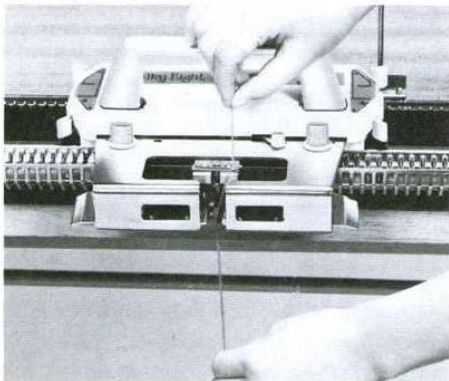

Fig.26
- (f) then finally down to the carriage feeder. (Fig.26)
- (g) Slide the wool under the feeder spring plate, to allow the wool to enter the feeder eye. (Fig.26)